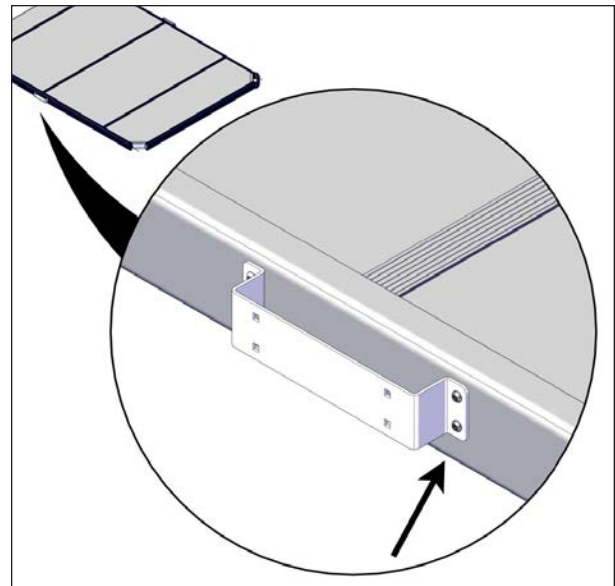

FIGURE 64: SUPPORT BRACKET SCREW TIGHTENING
- When the previous step is completed, use a 5/32" (4 mm) allen key or Allen head wrench hex screwdriver bit to tighten the 1/4-20 X 1" round head screws on each sleeve mounting bracket and secure them well, see Figure 64. Those two screws need to be well tightened to keep the I-Beam seals compressed properly.